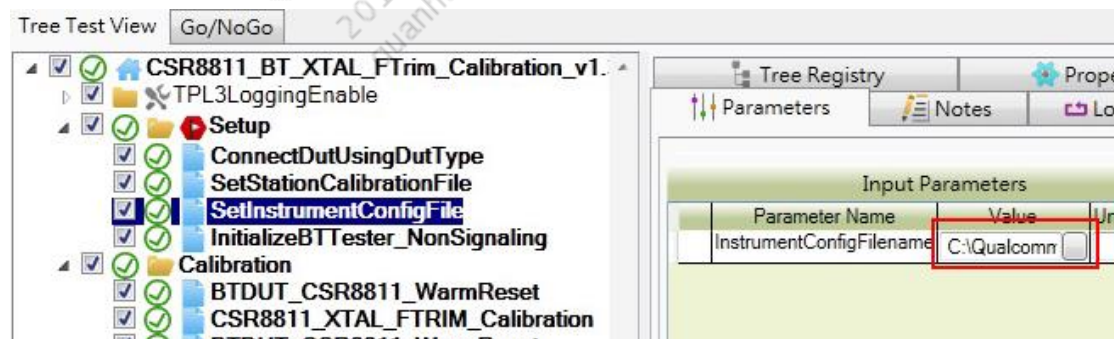

Figure 6 Test tree for SetInstrumentConfigFile
3. Modify the SetInstrumentConfigFile as shown in Figure 6.